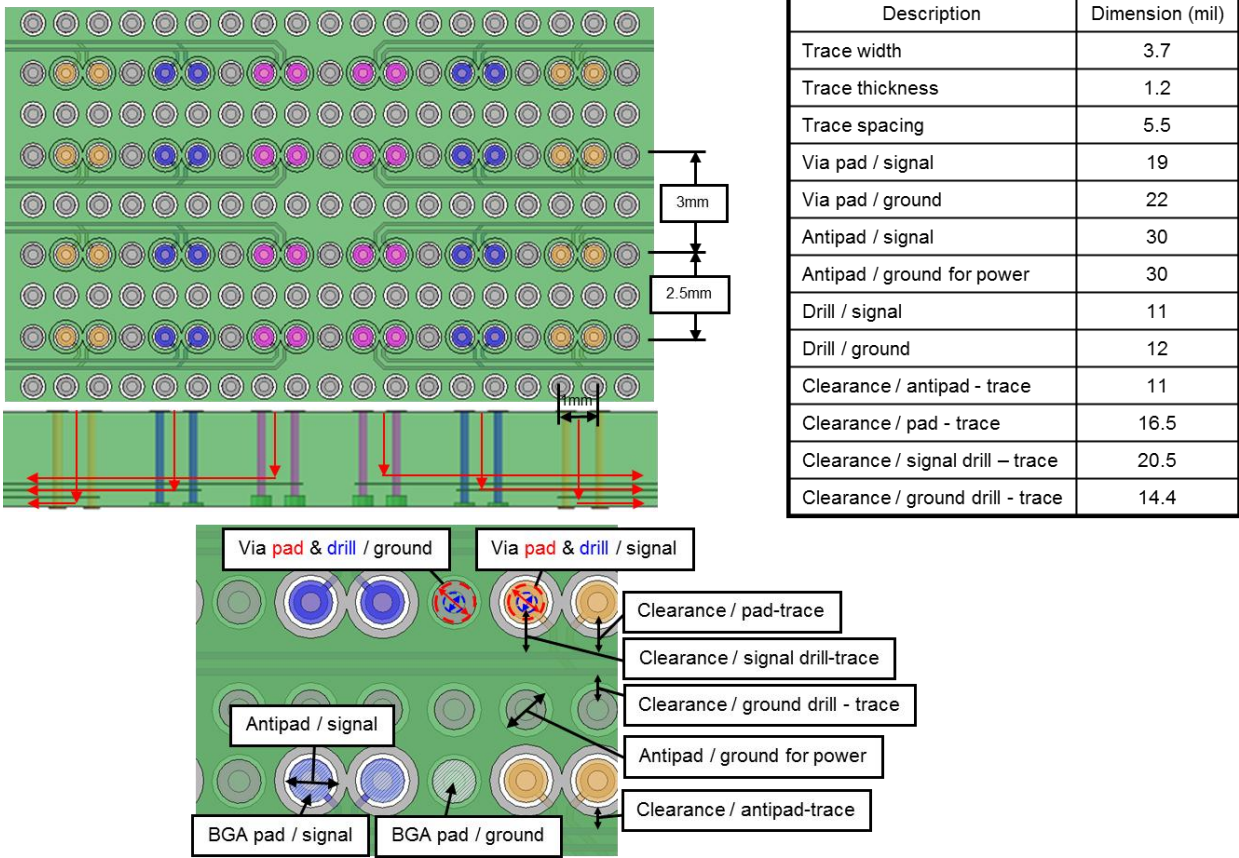

Figure 5-20 Routing Example 6: Via-in-Pad with additional ground vias between all columns
This example, shown in Figure 5-20, is employed to maximize signal integrity (SI) performance. The addition of ground vias between all columns help alleviate crosstalk between adjacent vias.